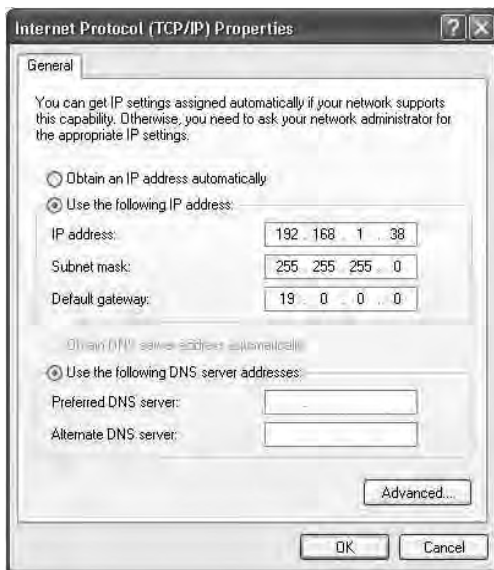

Figure 6: Internet Protocol (TCP/IP) Properties Window
6. Select **Use the following IP address**, and fill in the details as shown in Figure 6.